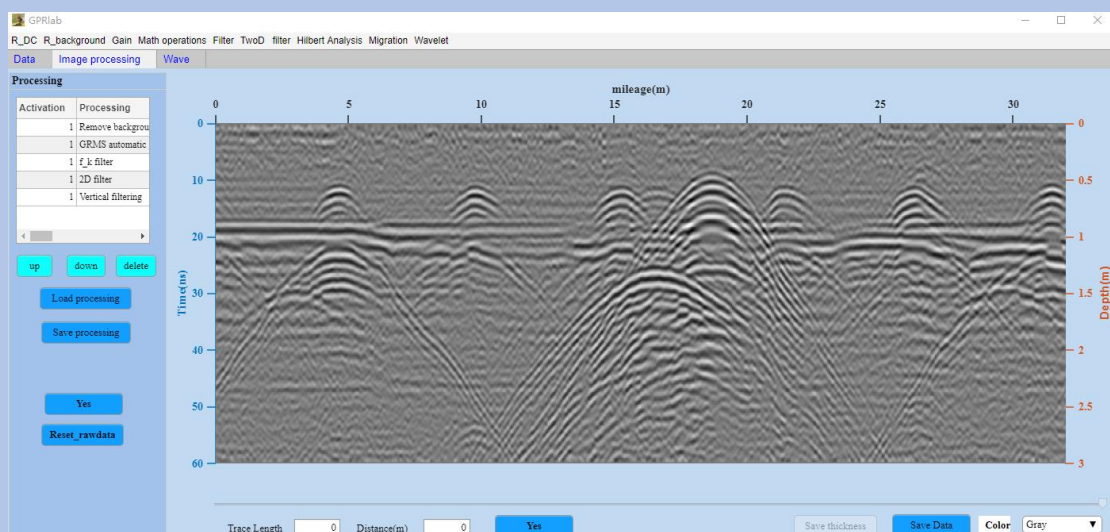

Fig. 8.12 Processing results of Case2
(5) Click Yes to complete the data processing, and obtain the processing result as shown in Figure 8-12.